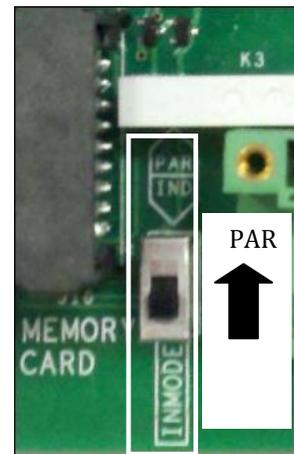

Figure 2.14a - Parallel MPPT Configuration Switch
- Place switch S1 (shown in Figure 2.14a) in the “PAR” in order to configure the inverter controls in parallel mode.